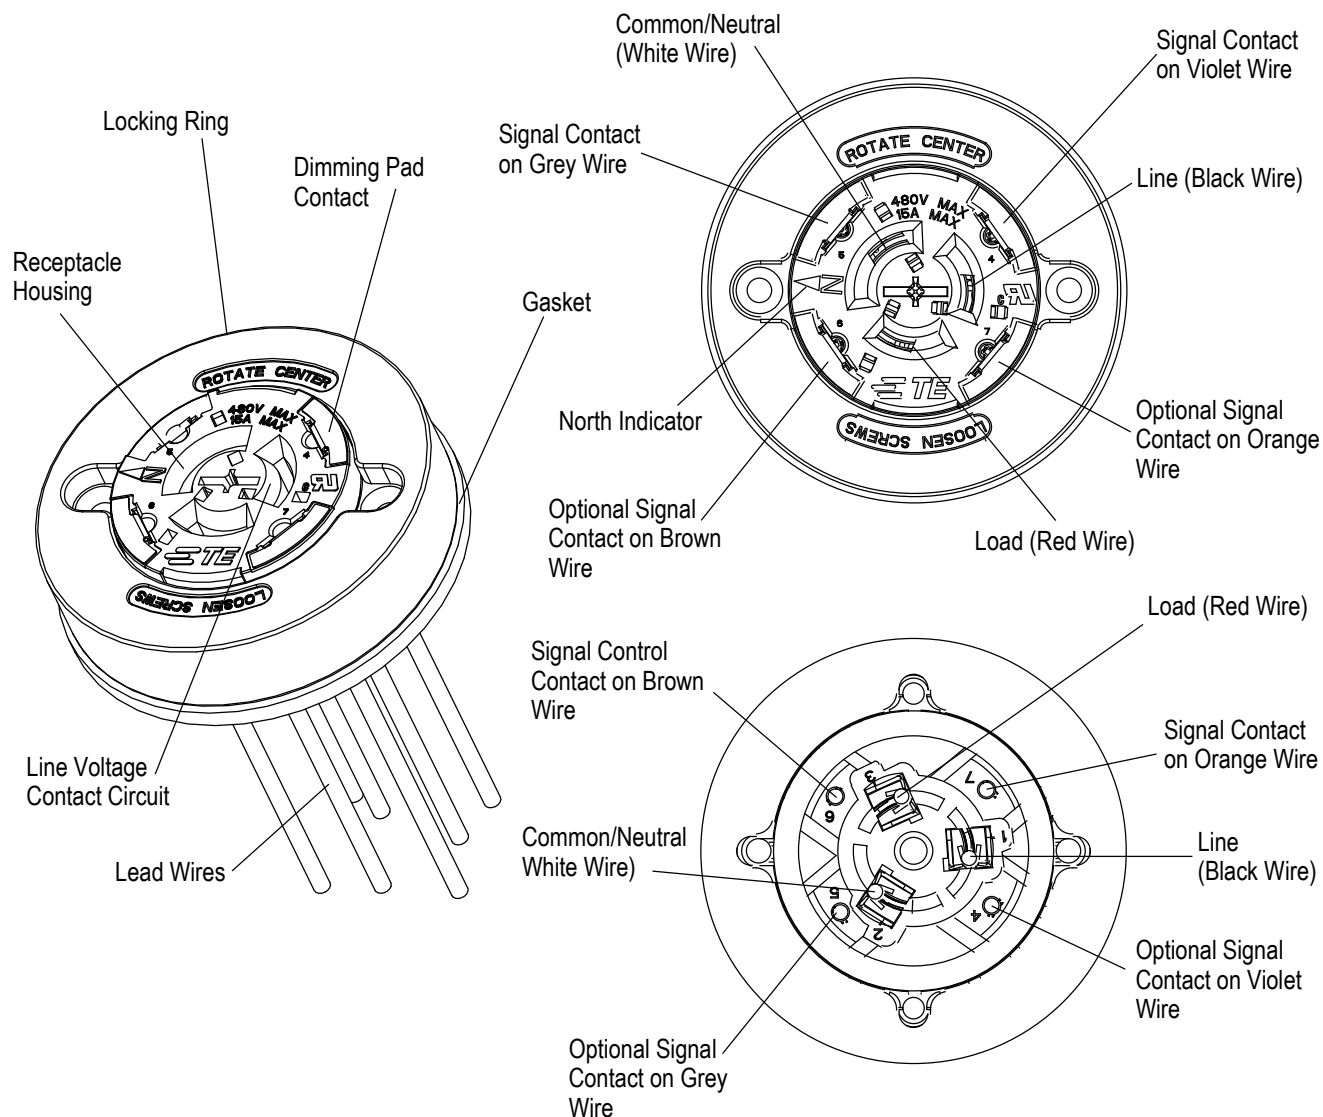

Figure 1
When corresponding with TE Connectivity (TE) Personnel, use the terminology provided in this specification to facilitate inquiries for information. Basic terms and features of this product are provided in Figure 1.